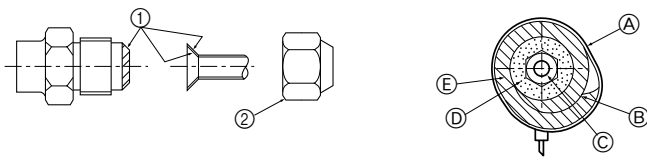

Fig. 4-5
- Wrap the pipe cover ③ that is attached to the gas pipe and make sure that the connection joint is not visible.
- Use the bands that are provided ④ to tighten both ends (15 – 20mm) of each pipe cover ③.
- D Pipe cover ③
- E Bands ④
**When using commercially available copper pipes: (Fig. 4-5)**